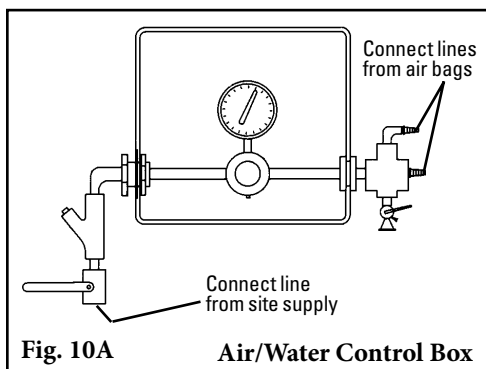
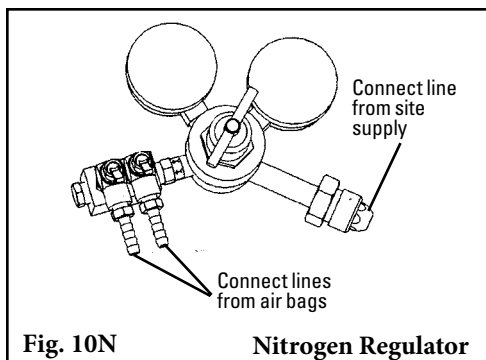

Fig. 10A
Fig. 10N
**10A. Connect the supply lines and set tension pressure.** With the parts supplied, attach a line to each air bag and run the lines to the outlet side of the control box (Fig. 10A) or nitrogen regulator (Fig. 10N). **NOTE:** Be sure lines are safely away from the belt. Connect a line from the inlet side of the box (or nitrogen regulator) to the site's supply. Test the connections for leaks and set the pressure per the chart on the control box (also shown below). If using a nitrogen regulator, take the pressure chart label from the instruction packet and affix it in an easily accessible location near the regulator for future reference.